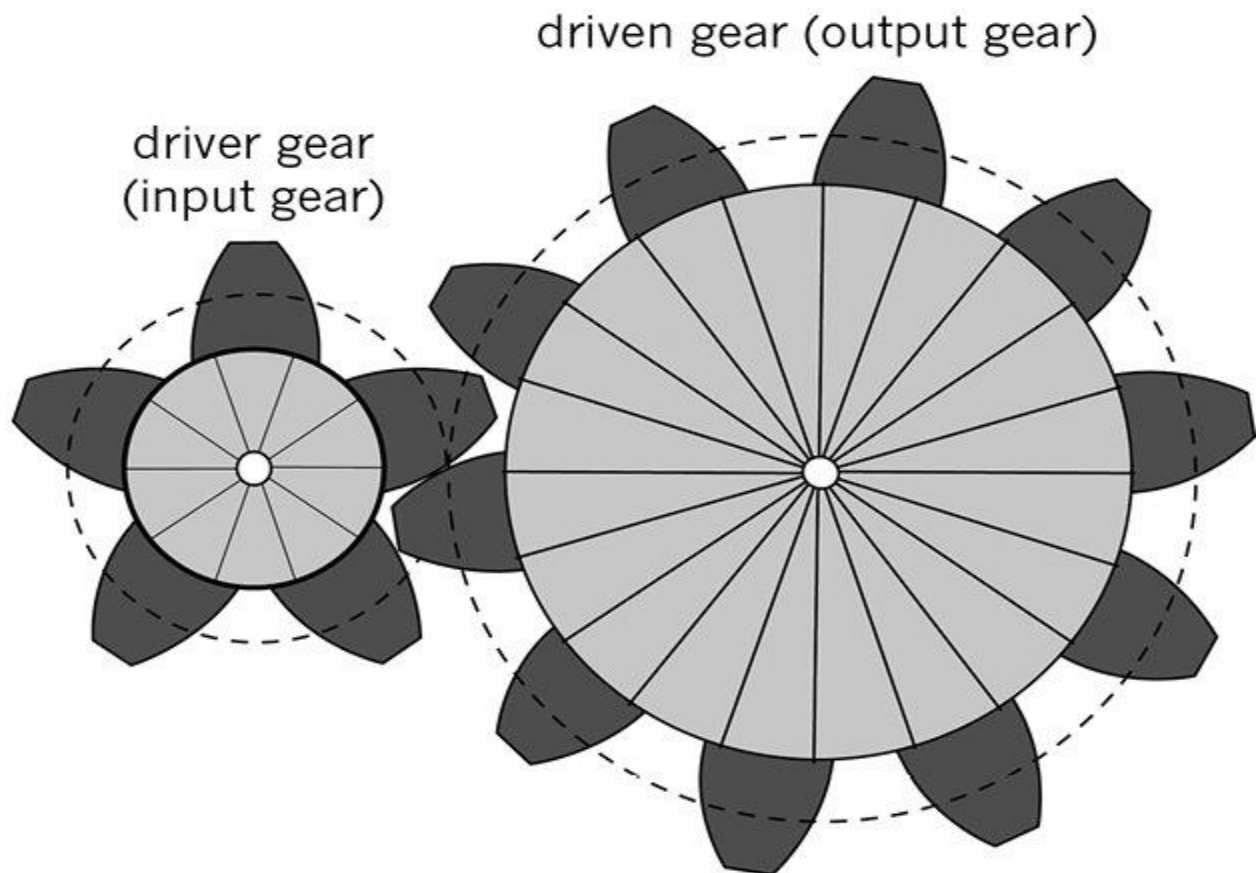

Figure 5
Look at the two meshed gears in Figure 5. The driver or input gear has 5 teeth. The driven or output gear has 10 teeth.
1. The gear system in Figure 5 has 5 teeth on the driver gear and 10 teeth on the driven gear. Calculate the rpm of the driven gear if the driver gear rotates at 1 500 rpm.